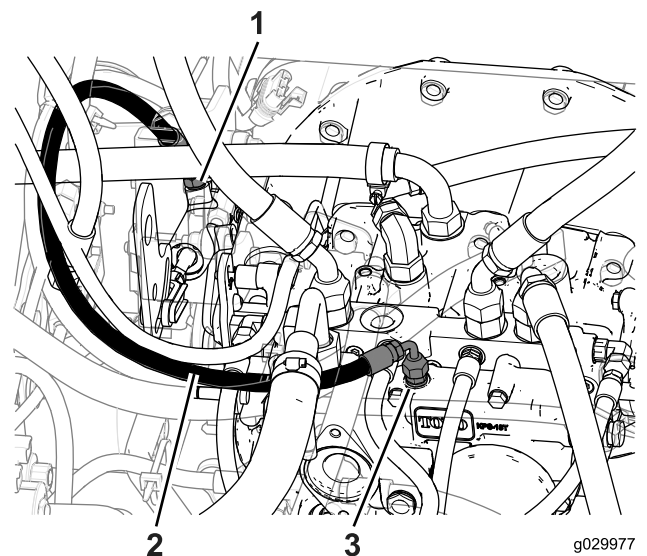

Figure 12
4. Connect the hose fitting (90 degree) on the short-hydraulic hose to the hydraulic fitting (straight) on the hydraulic transmission (Figure 12).